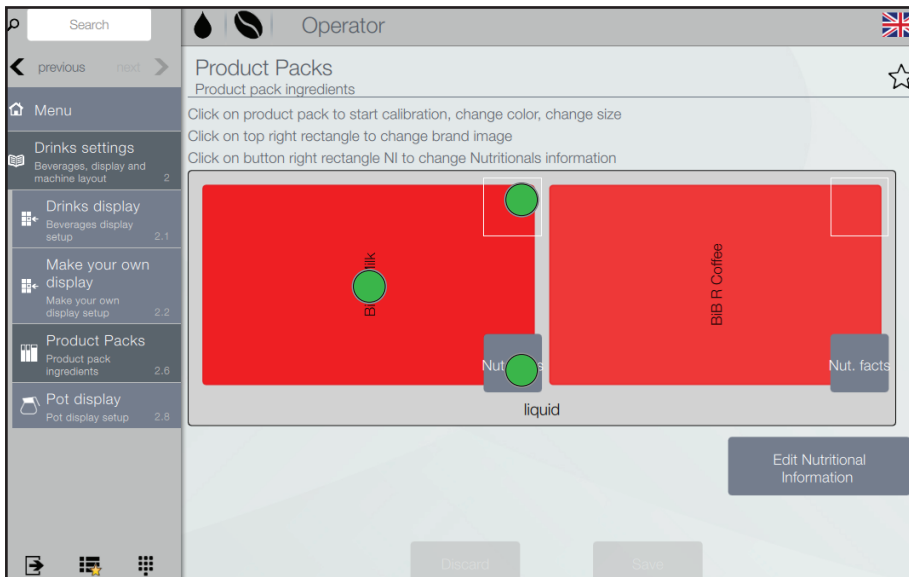

Fig. 6.10- Product packs
- Tap on menu items 2 > 2.5
- Tap on the requested product pack on the screen (fig. 6.10) to